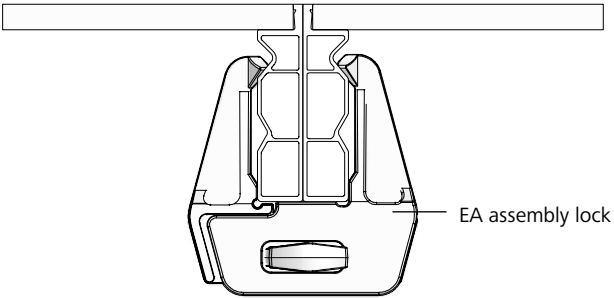

Fig. 12.1
- With double groove using the EA assembly lock (Fig. 12.1).